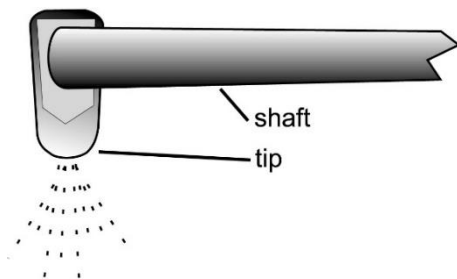

Figure 4: Correct Position of the Atomizer Tip
2. Prepare the atomizer by rapidly squeezing the bulb until oil is spraying out. Insure that the tip of the atomizer is pointed down (90° to the shaft; see Figure 4).